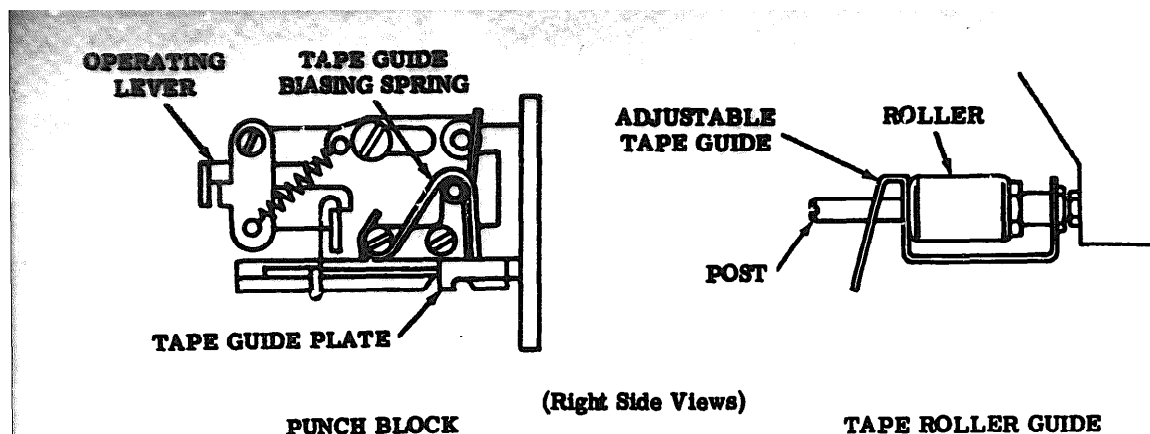

Figure 21- Universal Punch Block and Roller Guide
sembly which includes an adjustable tape guide (Figure 21). An operating lever on the universal punch block and an adjustable tape guide may be positioned to accommodate any of the available four different levels and three widths of tape.
C. Universal Punch Block (Figure 21)